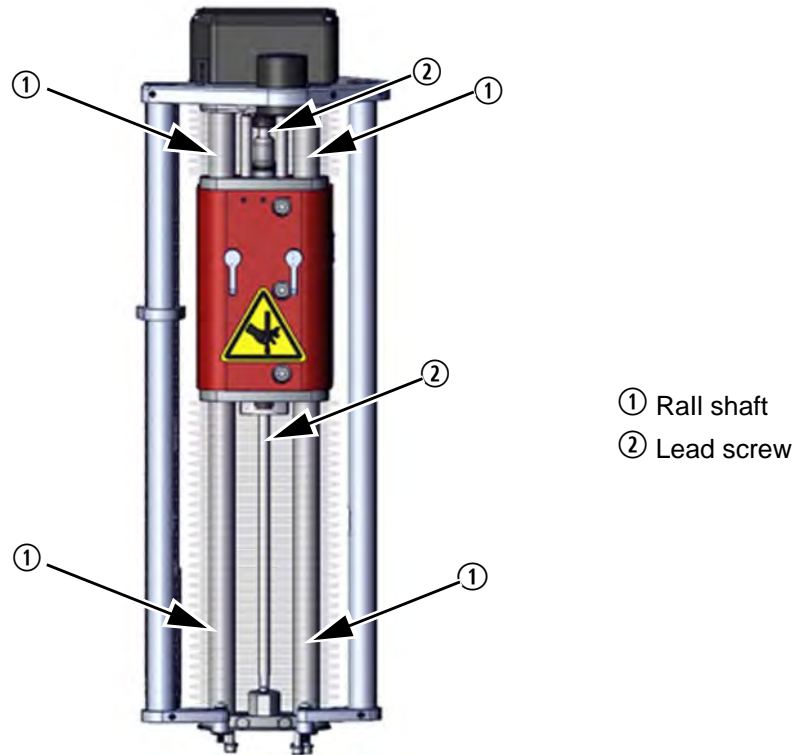

Figure 4-15
2. Apply a light coating of Jet-Lube Temp-Guard (Synthetic Molydisulfide) grease on the **lead screw threads** (Figure 4-15), ensuring that you work the grease deep into the thread grooves.